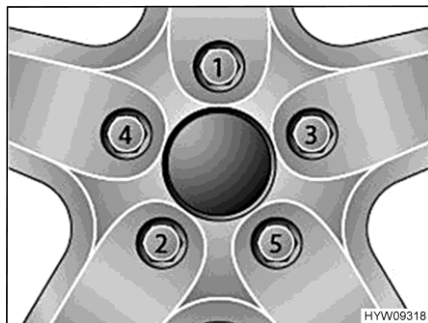

Fig. 78 Tightening the wheel nuts or wheel bolts cross-wise
- Tighten the wheel nuts or wheel bolts in the order shown in Fig. 78. In order to do this, use a torque wrench and comply with the specified tightening torque (see section 14.5).
- Check regularly that the wheel nuts or wheel bolts are firmly seated. Re-tighten the wheel nuts or wheel bolts of a changed wheel after 50 km (30 miles). While doing so, proceed in the order shown in Fig. 78.
- When using new or newly painted rims, re-tighten the wheel nuts or wheel bolts once again after approx. 1,000 to 5,000 km (600 miles to 3,000 miles). While doing so, proceed in the order shown in Fig. 78.